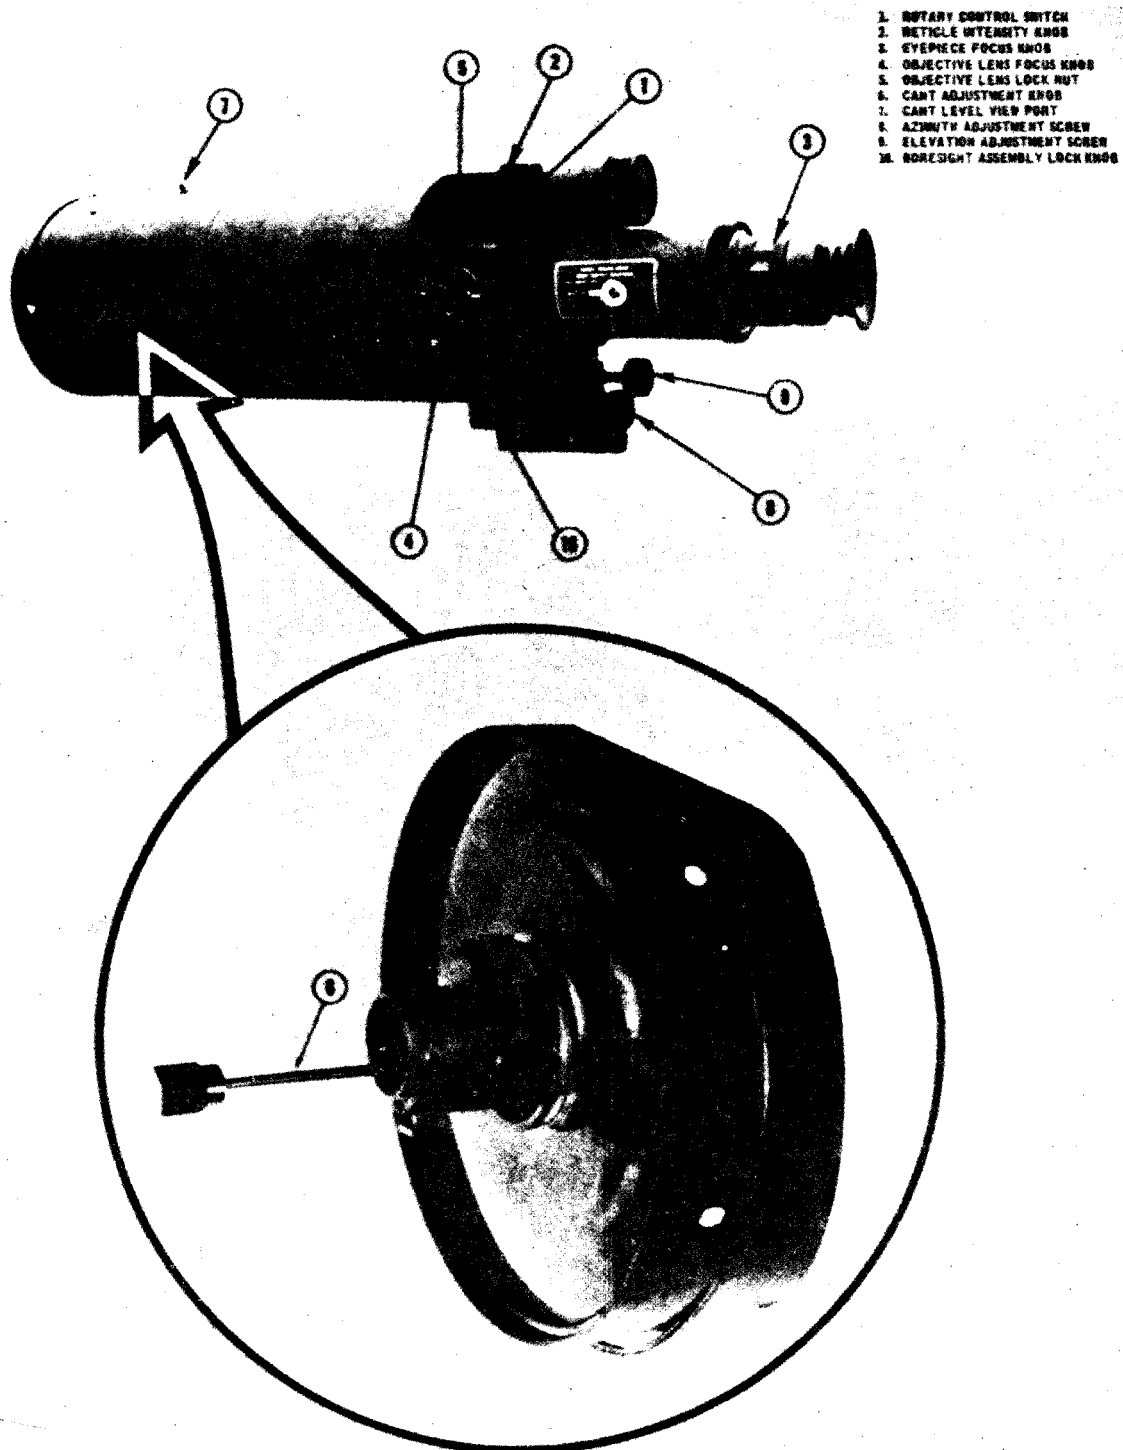

Figure 4. Sight controls.
11. General. Prior to operating the Sight, the operator must become familiar with the controls described in paragraph 12 (fig 4).
12. Controls (Fig 4). *a.* *A Rotary Control Switch (1).* Provides four positions: OFF, CANT LEVEL ILLUMINATION ON, TUBE ON, TUBE ON RETICLE ON.
b. *Reticle Intensity Knob (2).* Allows the operator to increase or decrease the brightness of the reticle under various light conditions. To increase the brightness of the reticle pattern, turn the reticle intensity knob counterclockwise. To decrease brightness, turn the reticle intensity knob clockwise.
c. *Eyepiece Focus Ring (3).* Provides diopter setting from +4 to -4 diopters for individual eye focusing.
d. *Objective Lens Focus Knob (4).* Allows the operator to focus the objective lens for range (distance) from 50 meters to infinity. Objects closer than 50 meters can be seen, but a clear image focus cannot be obtained.
e. *Objective Lens Lock Knob (6).* Allows the operator to lock the objective lens when the correct
c. Move the rotary control switch to the first Stop position (CANT ILLUMINATION ON) and open the cant level view port. Adjust the cant adjustment knob (fig 4) until the cant level